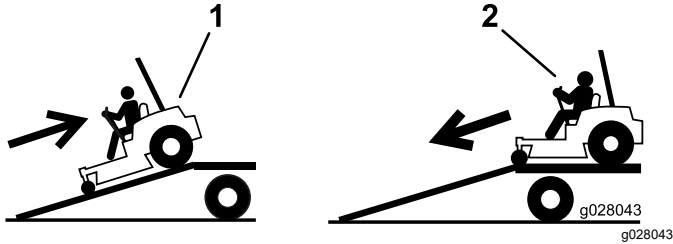

**Figure 46**
4. Back the machine up the ramp (Figure 46).
2. Drive the machine forward down the ramp (Figure 46).